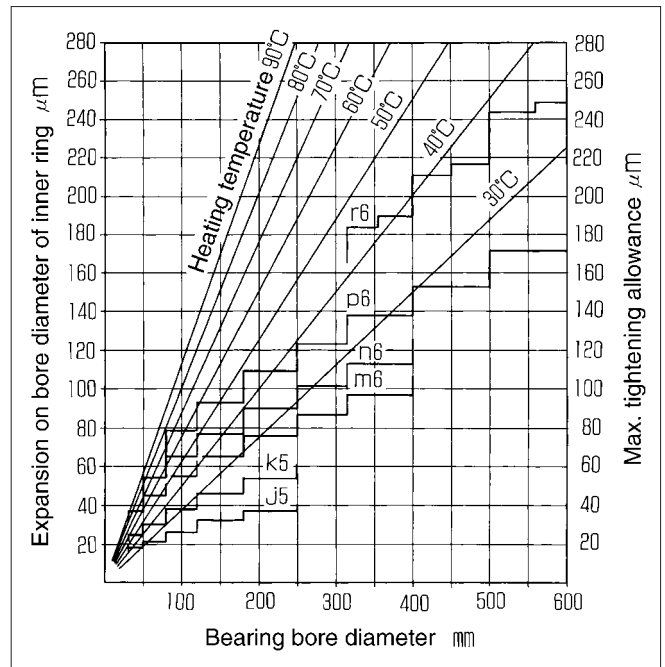

Fig. 9.19
- a. To install a medium or large bearing, a shrink-fitting technique can be conveniently employed. The heating temperature for shrink-fitting can be selected from Fig. 9.19 based on the bearing dimensions and tightening allowance requirements. Remember the temperature of the bearing must not exceed 120°C.